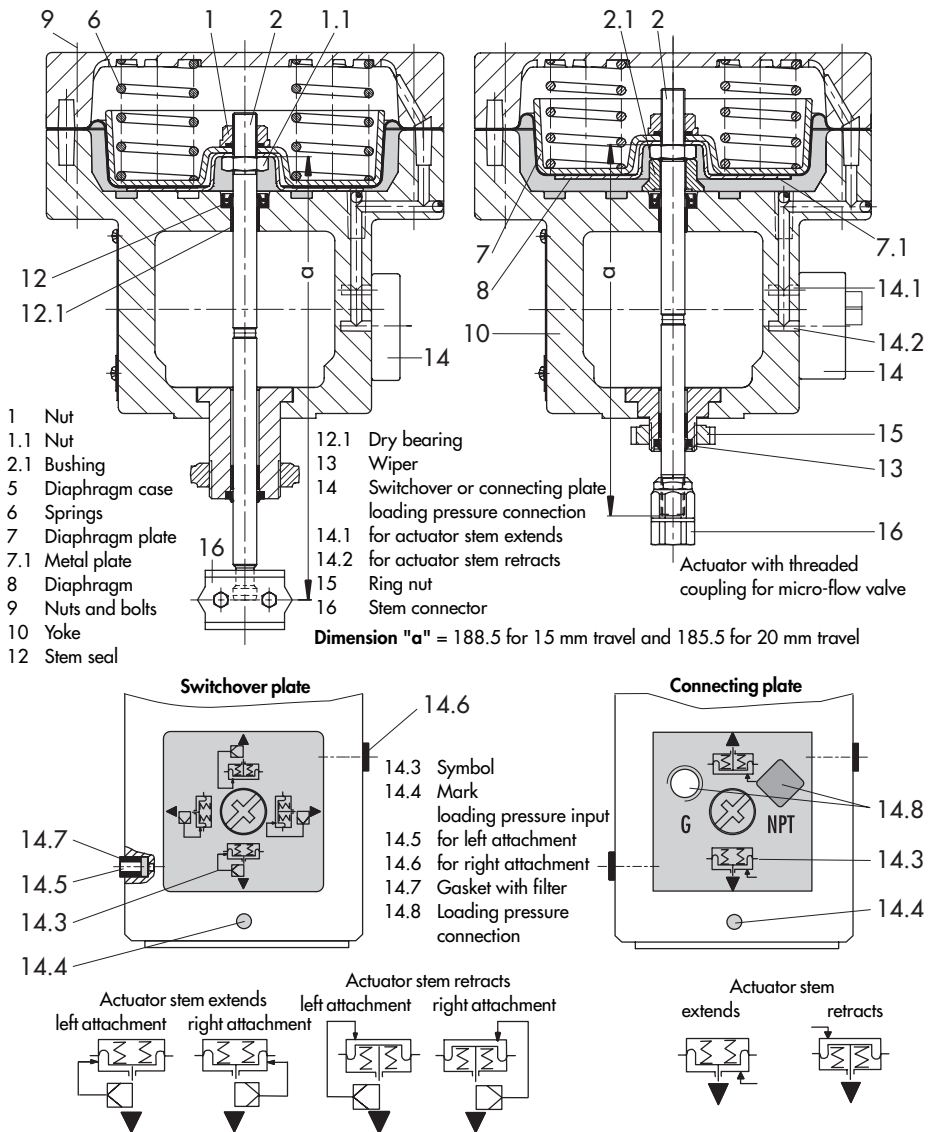

Fig. 4 · Type 3277-5 Actuator (120 cm2)
### Type 3277-5 Actuator (Fig. 4)
- ▶ Turn the switchover plate to align the symbol (14.3) for the appropriate fail-safe action with the mark (14.4). See Fig. 4, bottom left. The operating direction (>>) or (<>) of the positioner determines whether the left or right attachment is to be used.
- ▶ Turn the connecting plate to align the symbol (14.3) for the appropriate fail-safe action "actuator stem extends" or "actuator stem retracts" with the mark (14.4). See Fig. 4, bottom right.
6. Turn the top diaphragm case (5) upside down and place in to it the actuator stem with diaphragm plate, diaphragm and metal plate (7.1 in Fig. 4), if one exists.
7. Insert the springs (6) and slide the yoke with the lower diaphragm case over the actuator stem.
8. Screw diaphragm cases back together. Remove vent plug (3) on Type 3277 Actuator.